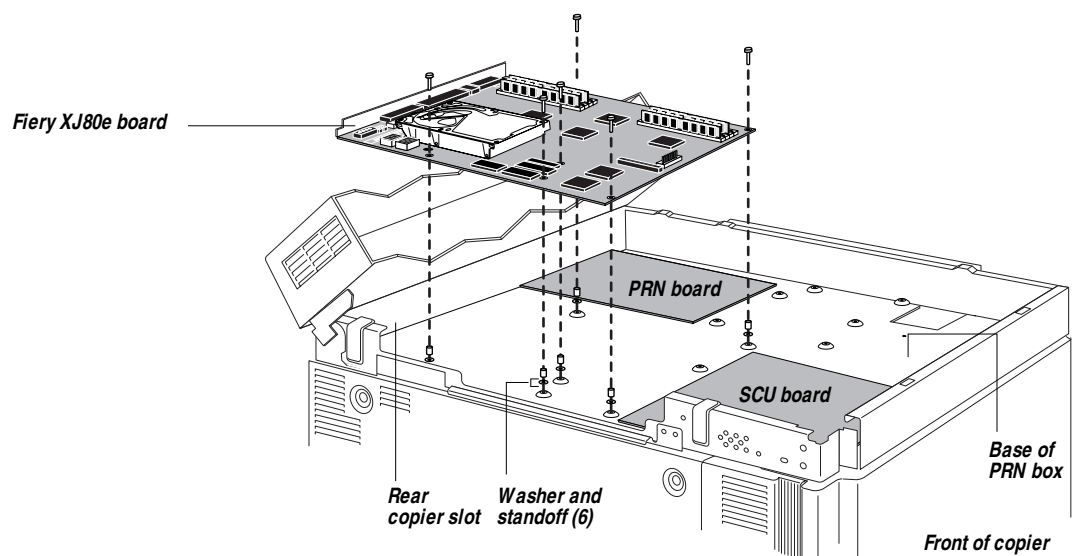

Figure 3-8 Installing Fiery XJ80e board
3. **Install the six standoffs with washers in the mounting holes on the base of the PRN box (see Figure 3-8).**
6. **Insert the six screws into the screw holes on top of the Fiery XJ80e board to secure it (see Figure 3-8 on page 3-9).**